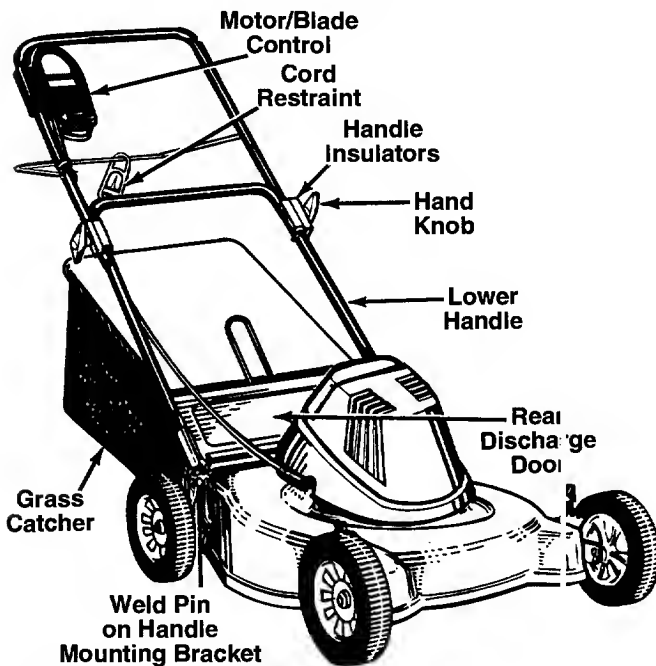

FIGURE 1.
1. Pull up and back on the lower handle. Pivot the upper handle up to raise the handle into the operating position. See figure 1.